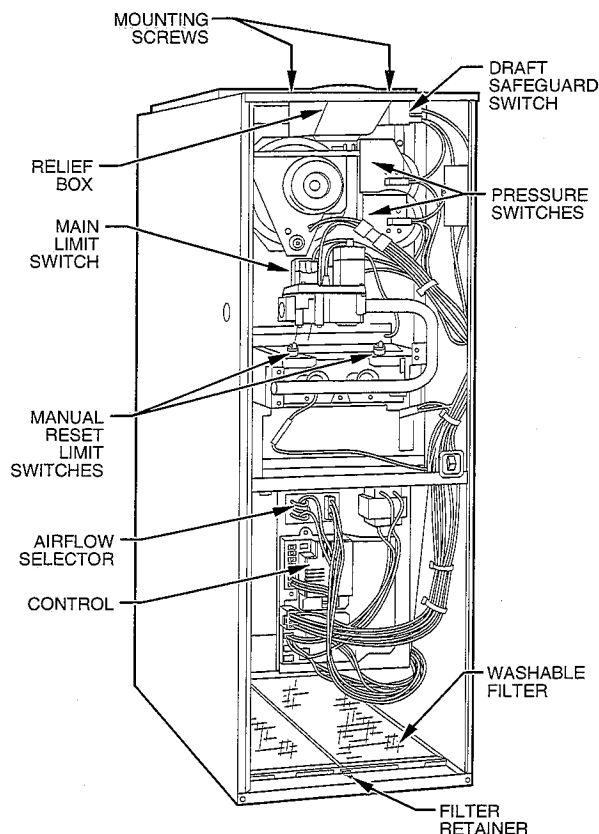

Fig. 4—Component Identification
→ Each furnace requires 1 or 2 filters which are installed in the blower compartment. (See Fig. 4.) The filter(s) maybe located at the bottom or side of the blower compartment, depending on return air duct location. To remove filters for cleaning or replacement, proceed as follows:
2. Release filter retainer from clip at front of furnace casing. (See Fig. 4.) For side return, clips may be used on either or both sides of the furnace.
4. Remove 2 screws that secure relief box. (See Fig. 4.)